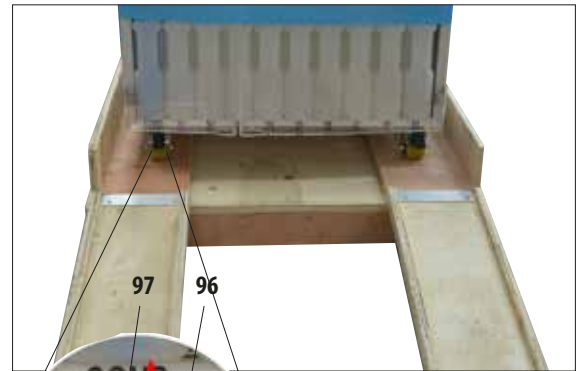

Fig. 10
- Now release the brake lever (97) on the two front transport castors (96) so that the instrument can be moved (Fig. 10).
- When the instrument is set up in its final location, the brakes on the instrument castors must be engaged once again. To do so, push the lever (97) (detail in Fig. 10) back downwards.